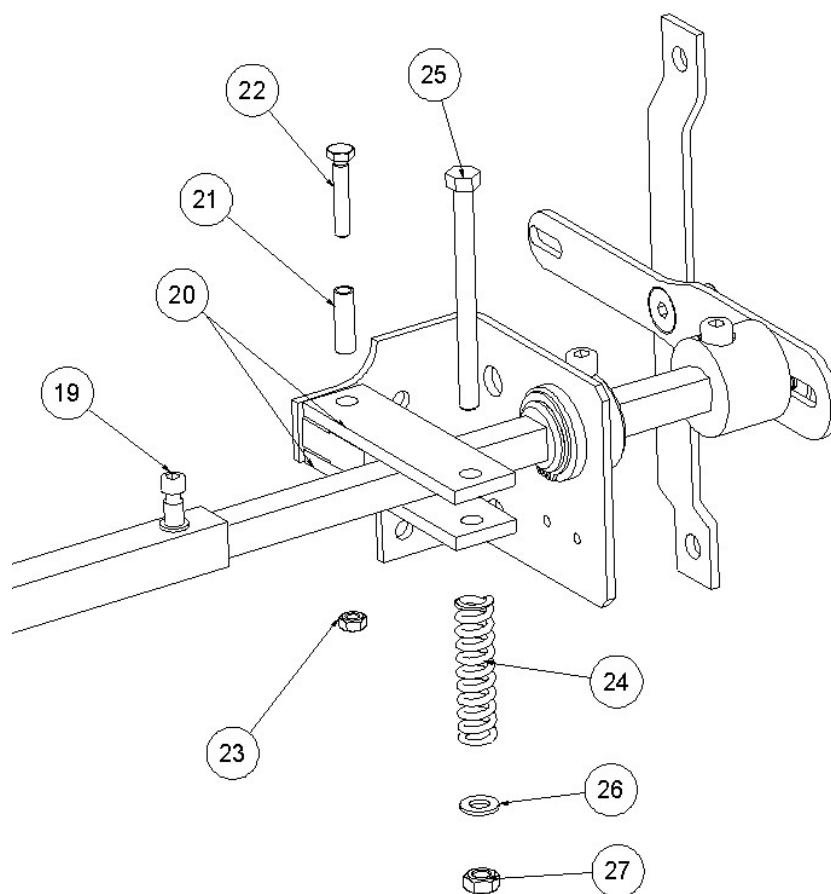

Figure. 6
7. TENSOR GROUP ASSEMBLY: The two axle supports (20) must be aligned with the tensing support (one in upper part and other in lower part), then insert the tensing tip (21) and fix this group with the M6 X 35 DIN 933 screw (22) and M6 DIN 985 Autoblock nut (23). Next, the M8 X 100 DIN 931 screw (25), must be introduced in the free drill holes placed at the axle supports and through the spring (24), as can be seen in the figure. Finally the group is fixed by a M8 DIN 125 washer (26) and a M8 DIN 985 Autoblock nut (27) -Fig.6-.